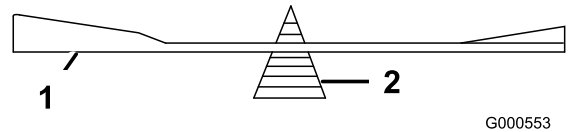

Figure 79
2. Check the balance of the blade by putting it on a blade balancer (Figure 79).